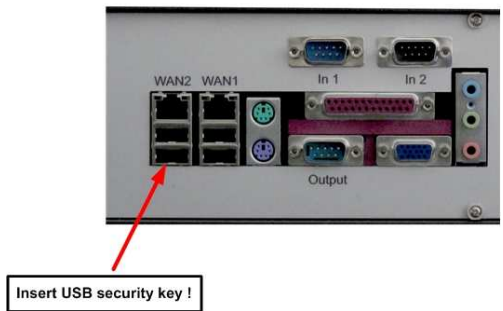

Figure 7.
- 7.6 Insert the USB security key into USB socket (Fig. 7).
- 8.3 Insert the USB security key into the socket shown in Figure 7.